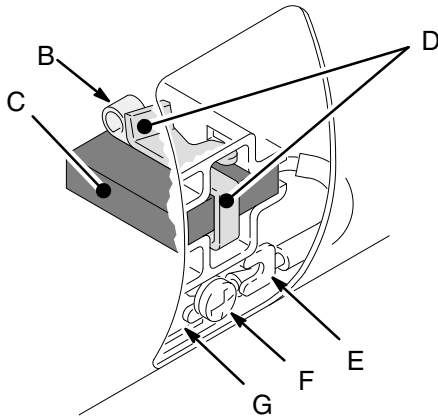

Fig 9
4. Loosen terminal screw (F). Pull brush lead (E) away, leaving motor lead (G) in place. Remove brush (C) and spring (B). See Fig 9.